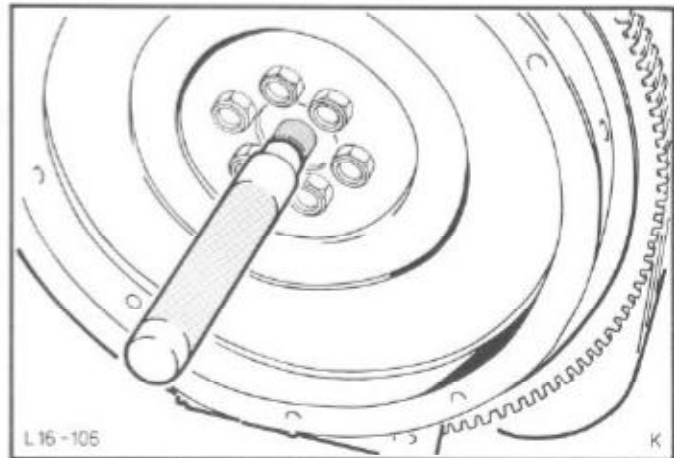

Fig.148. Drive in pilot bearing with Special Tool.
3. Drive in pilot bearing using Special Tool, Fig.148.